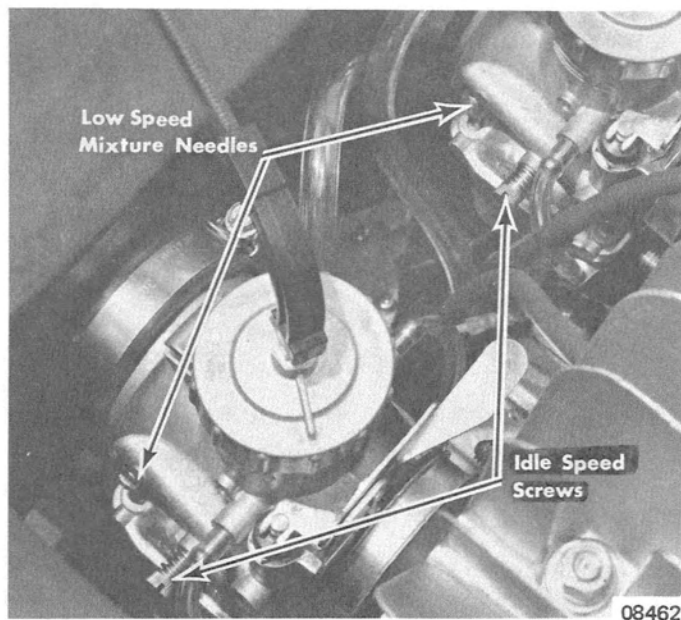

Figure 1. Carburetors
- d. Refer to "Jet Needle Adjustment", preceding, and check location of "E" ring in jet needle slots. (Figure 1)
1. Remove carburetor air intake silencer from carburetors and turn idle speed screws (Figure 1) on carburetors outward (counterclockwise) until they no longer contact throttle valves.
- a. Turn low speed mixture needles (Figure 1) inward (clockwise) until they seat lightly.
- a. Turn idle speed screws (Figure 1) outward (counterclockwise) until they no longer contact throttle valves.
2. Set idle speed screws (Figure 1) to attain recommended idle RPM (refer to "Specifications" Section 8). Turn idle speed screws inward (clockwise) to increase idle RPM or outward (counterclockwise) to decrease idle RPM.